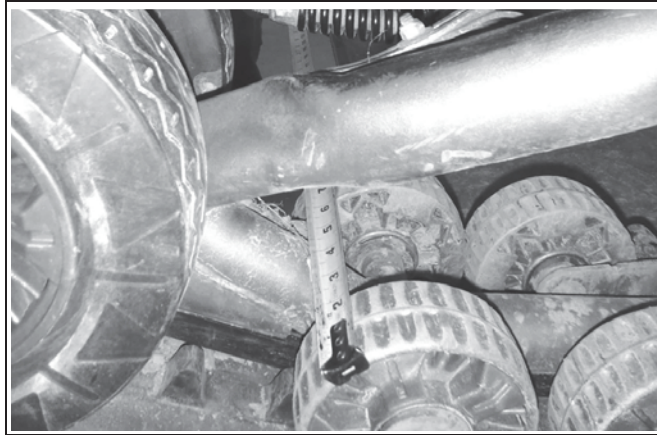
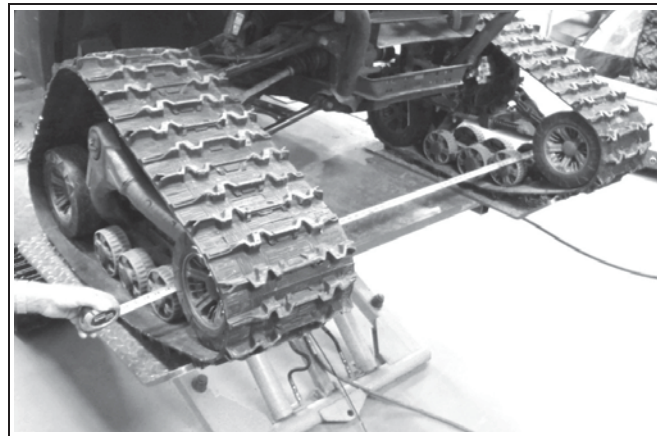

Figure 17 (Distance between the front axle wheels)
Figure 18 (Distance between the front axle wheels)
**Measure A:** Measure the distance which separates the external wheels of the front axle on the front track systems. See Figure 17 and Figure 18.